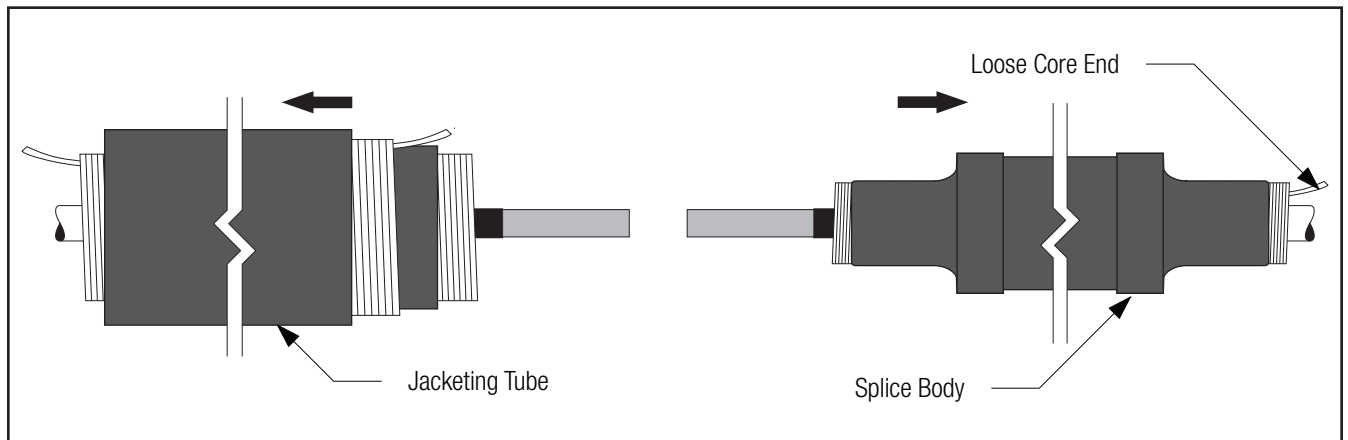

Figure 7
2.5 Clean or cover cable jacket if necessary, for cold shrink parking position. Slide jacketing tube onto one cable end. Slide splice body onto opposite cable, loose core end first. For size transitions, park splice on smaller cable (*Figure 7*).